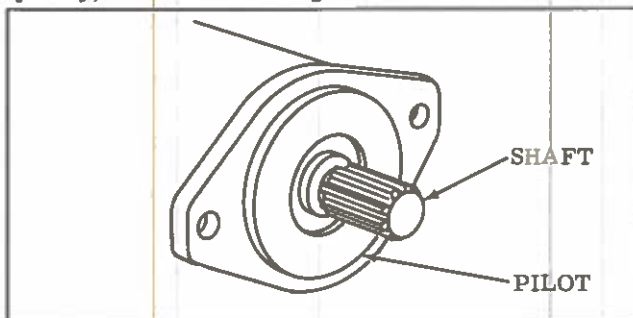

Figure 4.
1. Direct Drives - Care must be exercised when mounting the pump so that the pilot diameter fits properly into the mating section of the prime mover. (See Figure 4.) The pilot should not be forced into the mating part under any condition. Care should be exercised in tightening all flange mounting screws to prevent misalignment of shaft connections.